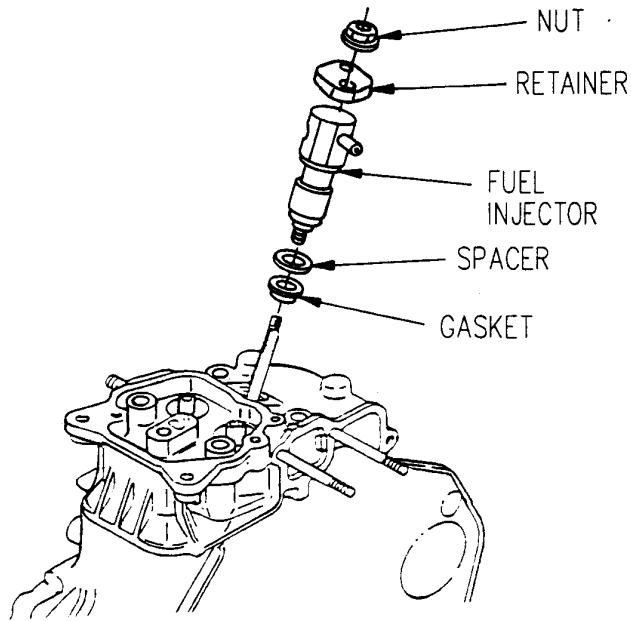

Figure 4-4. Fuel Injector Replacement
- (1) Shut down generator set.
- (2) Disconnect pressure and return fuel lines from fuel injector (Figure 4-4).
- (3) Remove nuts and retainer from cylinder head.
- (1) Clean fuel injector sleeve surface in cylinder head.
- (2) Install new gasket (Figure 4-4), spacer, and fuel injector in cylinder head.